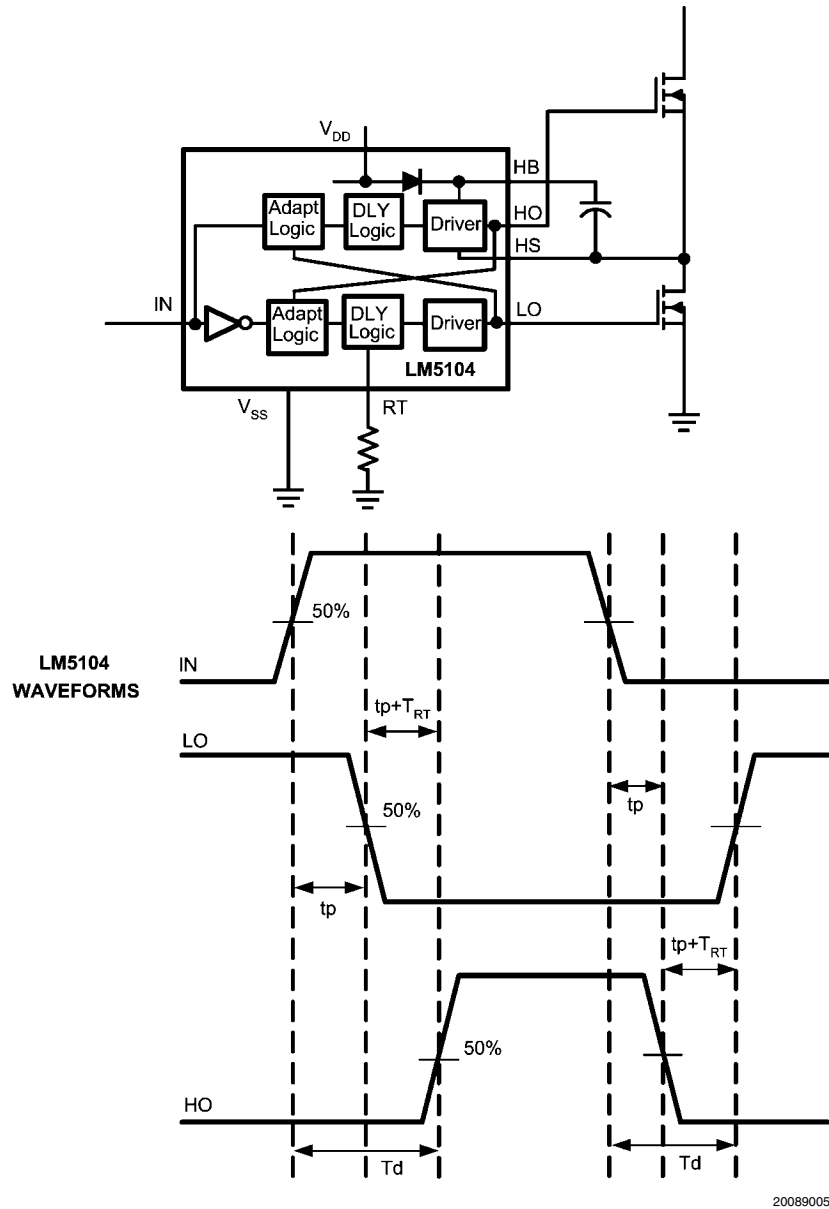

FIGURE 3. Application Timing Waveforms
LM5104 is a high voltage, high speed dual output driver designed to drive top and bottom MOSFET's connected in synchronous buck or half-bridge configuration, from one externally provided PWM signal. LM5104 features adaptive delay to prevent shoot-through current through top and bottom MOSFETs during switching transitions. Referring to the timing diagram *Figure 3*, the rising edge of the PWM input (IN) turns off the bottom MOSFET (LO) after a short propagation delay (t_p). An adaptive circuit in the LM5104 monitors the bottom gate voltage (LO) and triggers a programmable delay generator when the LO pin falls below an internally set threshold ($\approx V_{DD}/2$). The gate drive of the upper MOSFET (HO) is